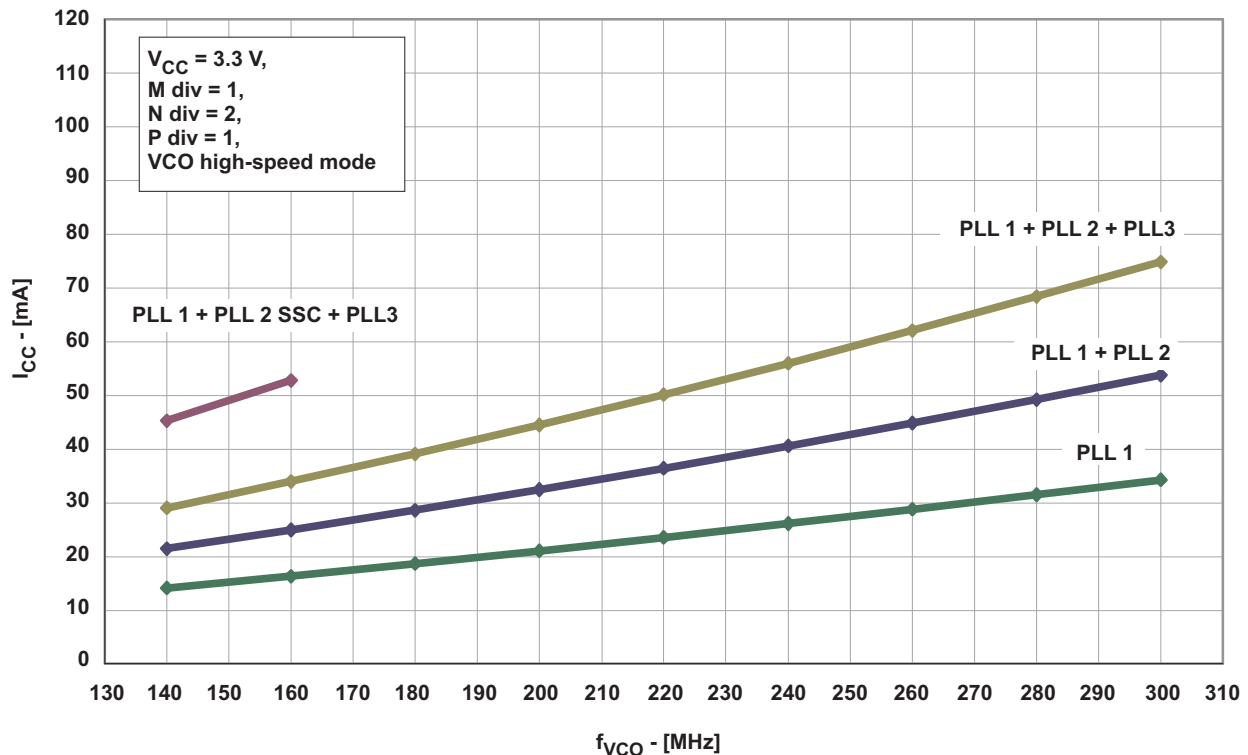
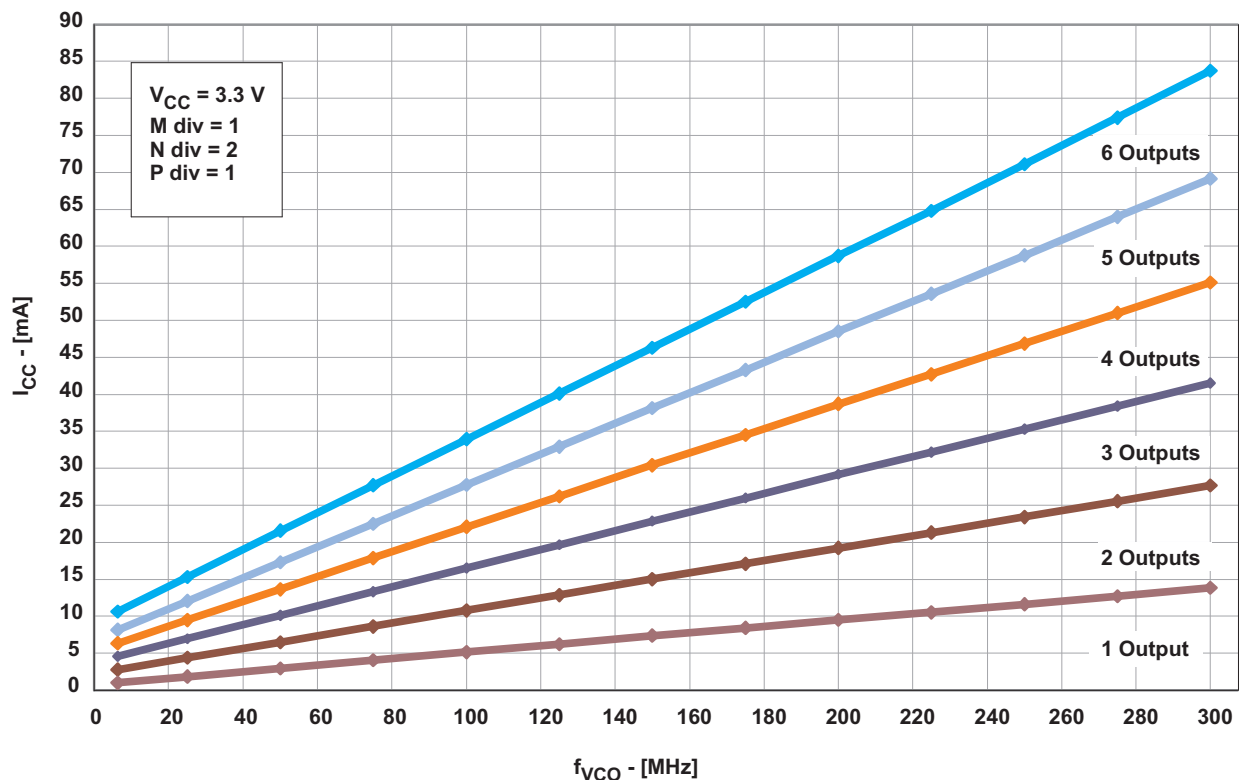
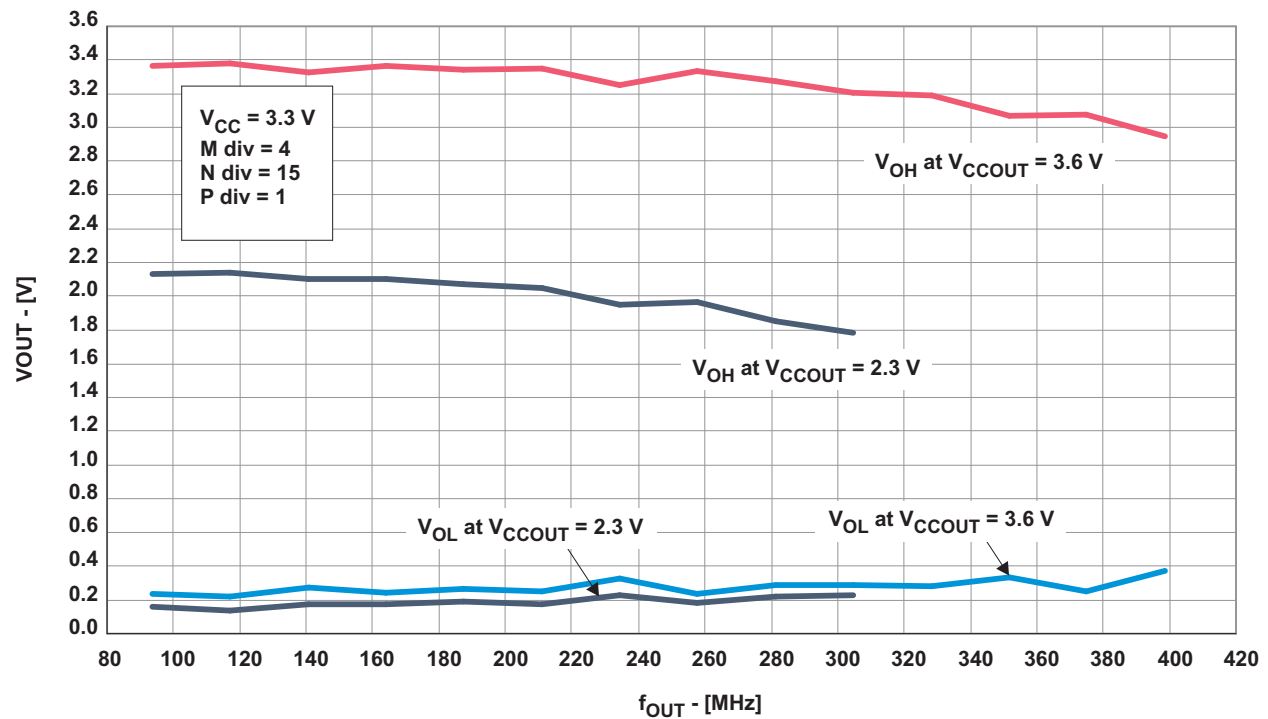

Figure 3. I_{CC} vs Number of PLLs and VCO Frequency (VCO at High-Speed Mode, Byte 6 Bit [7:5])
Figure 4. I_{CCOUT} vs Number of Outputs and VCO Frequency
Figure 5. Output Swing vs Output Frequency
(1) All typical values are at respective nominal V_{CC} .
(2) For calculating total supply current, add the current from Figure 2, Figure 3, and Figure 4. Using high-speed mode of the VCO reduces the current consumption. See Figure 3.
(3) Normal-speed mode or high-speed mode must be selected by the VCO frequency selection bit in Byte 6, Bit [7:5]. The min f_{VCO} can be lower but impacts jitter-performance.
(4) Do not exceed the maximum power dissipation of the 20-pin TSSOP package (600 mW at no air flow). See Figure 5
(5) 50000 cycles.
(6) Jitter depends on configuration. Jitter data is normal t_r/t_f , input frequency = 3.84 MHz, $f_{VCO} = 245.76$ MHz.